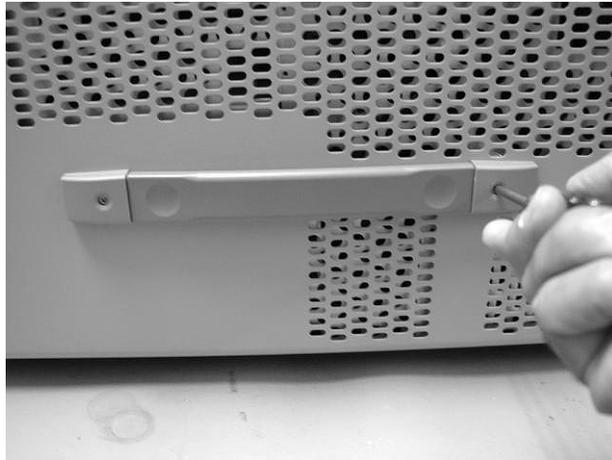

Figure 7-4. Removing the Side Handles
- 5 Remove the two screws that secure each handle to the side of the mainframe, as shown in Figure 7-4.